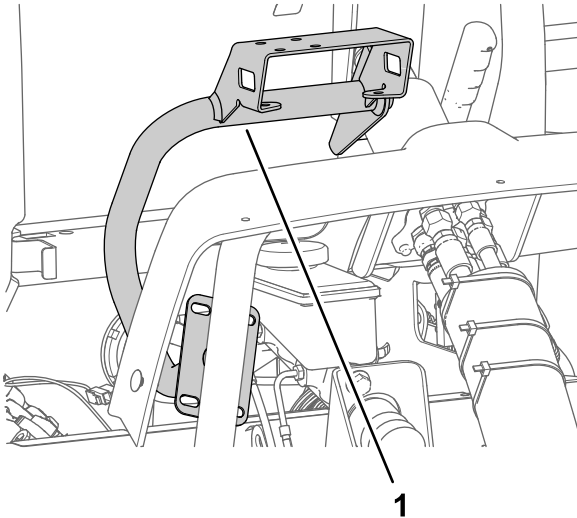

Figure 160
1. Align the monitor mount to the machine as shown in Figure 160.